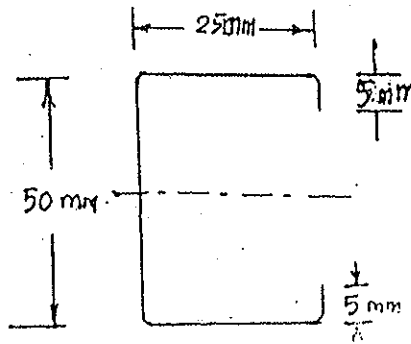

Fig. 4
14. (a) (i) Show that the sum of the moment of inertia about any two orthogonal axes is invariant with respect to any other two orthogonal axes. (6)
- (ii) Obtain the shear flow distribution and shear center location for the section shown in Fig. 4. When it is subjected to a shear load of 5 kN. (10)